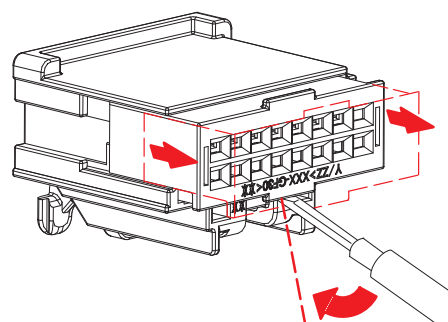

Figure 3
2. Rotate the extraction tool toward the connector housing to "pop" the TPA into the pre-latched (disengaged) position. See Figure 3.